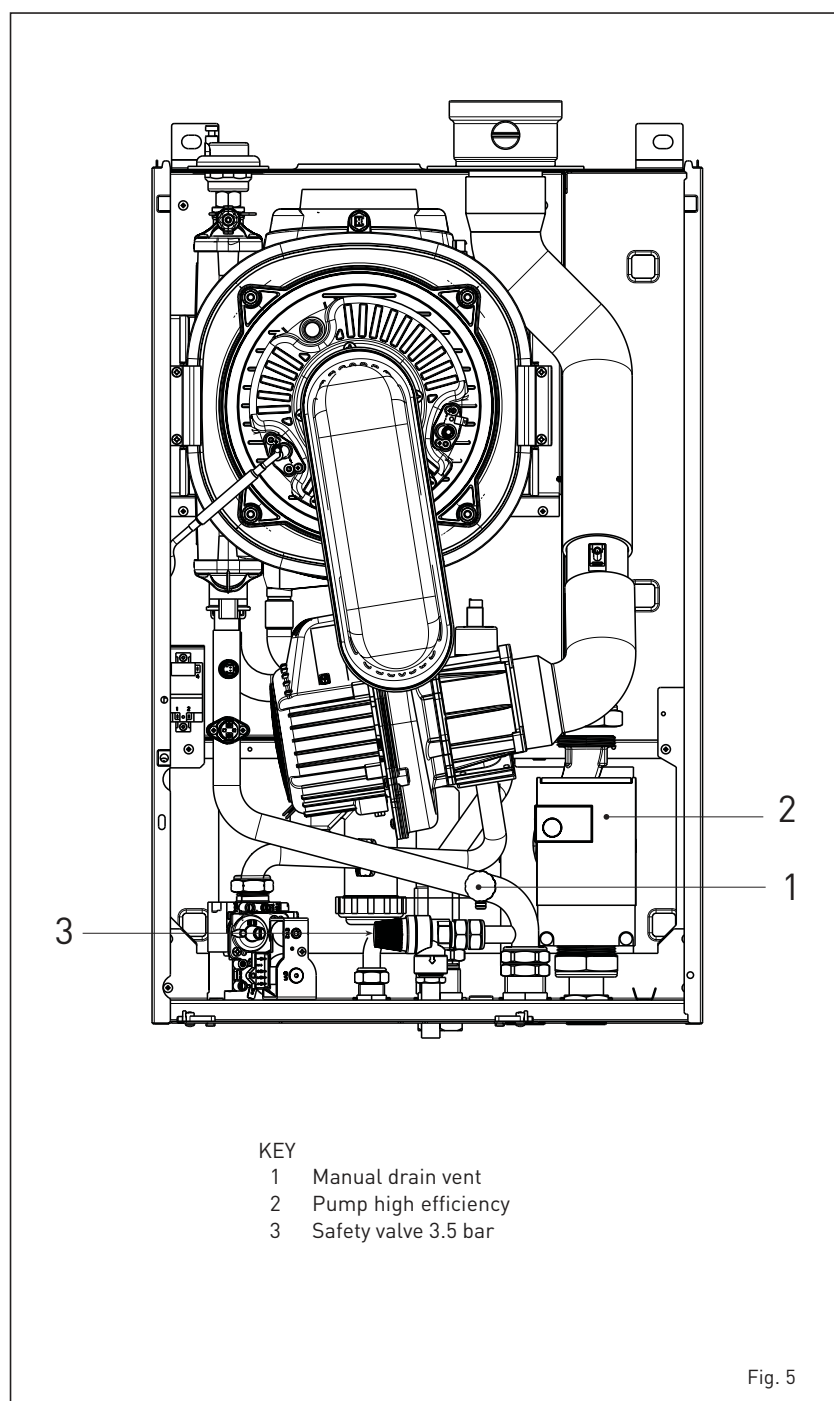

Fig. 5
2.4 INITIAL PHASE SYSTEM FILLING (fig. 5)
2.4.1 System draining (fig. 5)
To drain the system, turn off the boiler, isolate the flow and return, and use the boiler drain vent (1 fig. 5).
2.4.3 Requirements for sealed water systems MURELLE HE 70 R ErP (fig. 5/b)